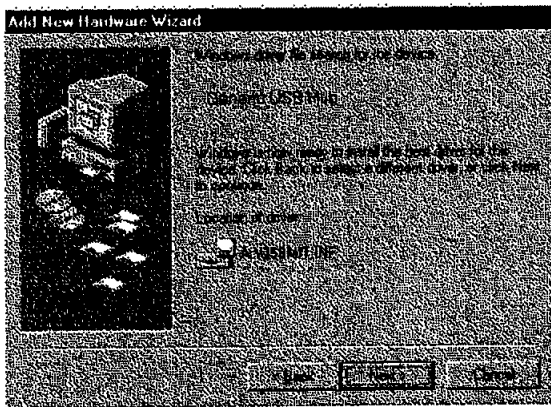
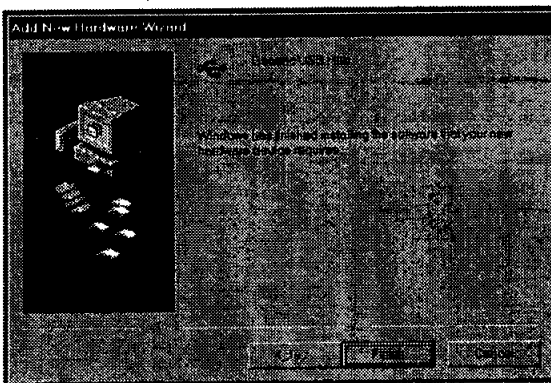

Figure 8
Figure 9
- (1) Connect the computer and the display monitor with an USB cable. Figure 8 will appear.
- (2) Click "Next" on Figure 8 to get Figure 9.
- (3) Click "Finish" on Figure 9 to complete the enumeration of Mitsubishi USB HUB.